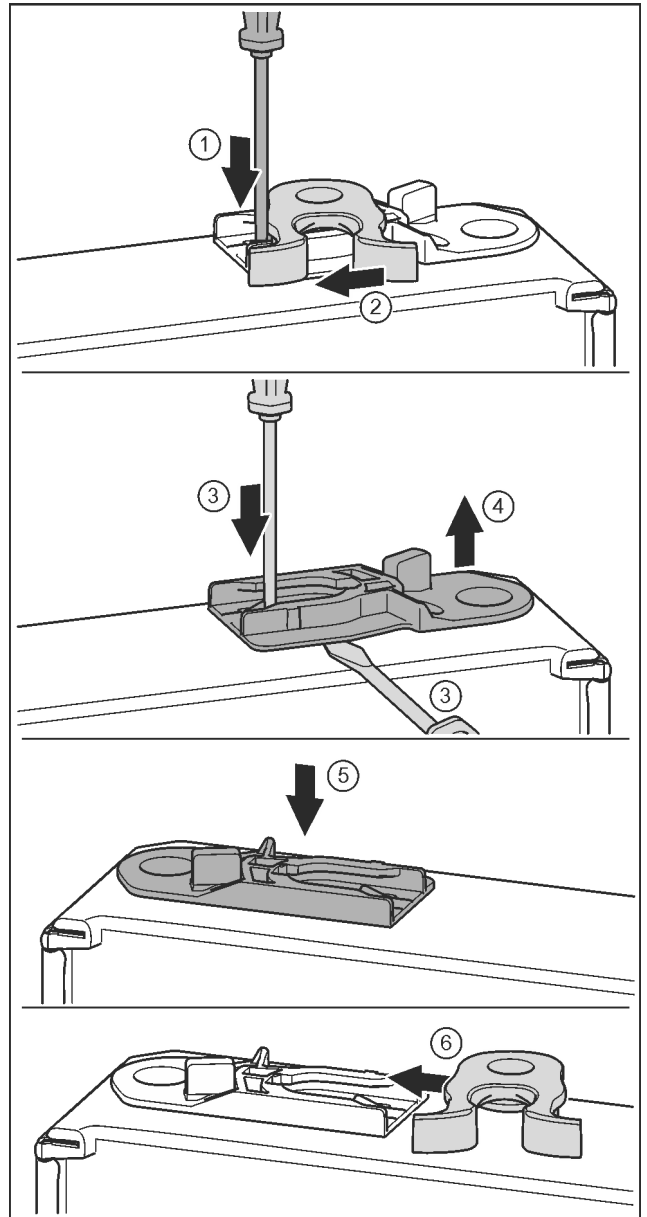

Fig. 34 *
- ▶ Push the tab downwards with a slotted screwdriver. Fig. 34 (1) *
- ▶ Pull the door latch out of the guide. Fig. 34 (2) *
- ▶ Pull out the guide bush: Press the tab with a slotted screwdriver and, at the same time, insert the slotted screwdriver under the guide bush. Fig. 34 (3, 4) *
- ▶ Slide the guide bush included in the scope of supply to the other side of the housing. Fig. 34 (5) *
- ▶ Push the door latch into the guide. Fig. 34 (6) *